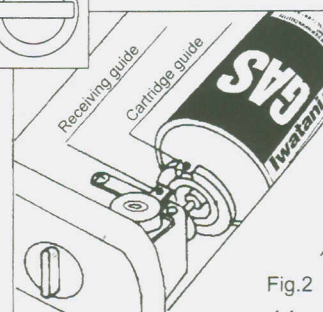

Fig.2
- Place the fuel cartridge with cartridge guide in up-right position. (Fig. 2)